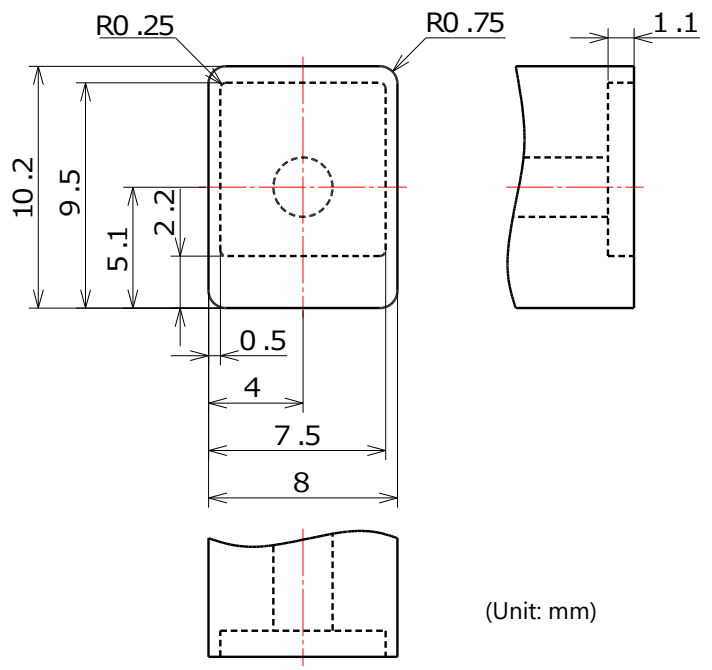

Figure 3. Recommended Nozzle Dimensions
1. Use a pick-and-place nozzle that does not come in contact with the bonding ribbons of the LED. Figure 3 shows the recommended dimensions for the pick-and-place nozzle. Ensure that the size and shape of the nozzle tip are appropriate for the LEDs. Otherwise, this may damage the LED (i.e. scratch, chip, crack, deformation, etc.), affecting the optical characteristics and/or the reliability, or causing the LED not to illuminate. This may also lead to an incorrect pick up (i.e. the LED is picked up in a tilted position).